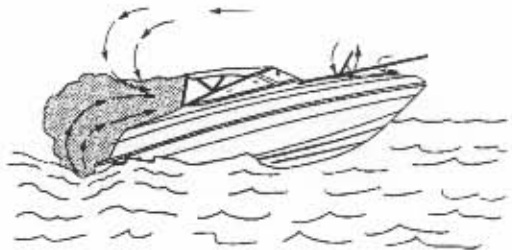

FIGURE H4: BACKDRAFTING - AIRFLOWS OVER BOAT AND BEHIND TRANSOM.
the boat. Backdrafting can be affected by relative wind direction, boat speed, and boat trim angle. See Figure H4 Backdrafting - Airflows Over Boat and Behind Transom".
3. Canvas Configurations - Under various conditions, adding or removing canvas may raise or lower CO levels. See Figures H4, H5 & H7.